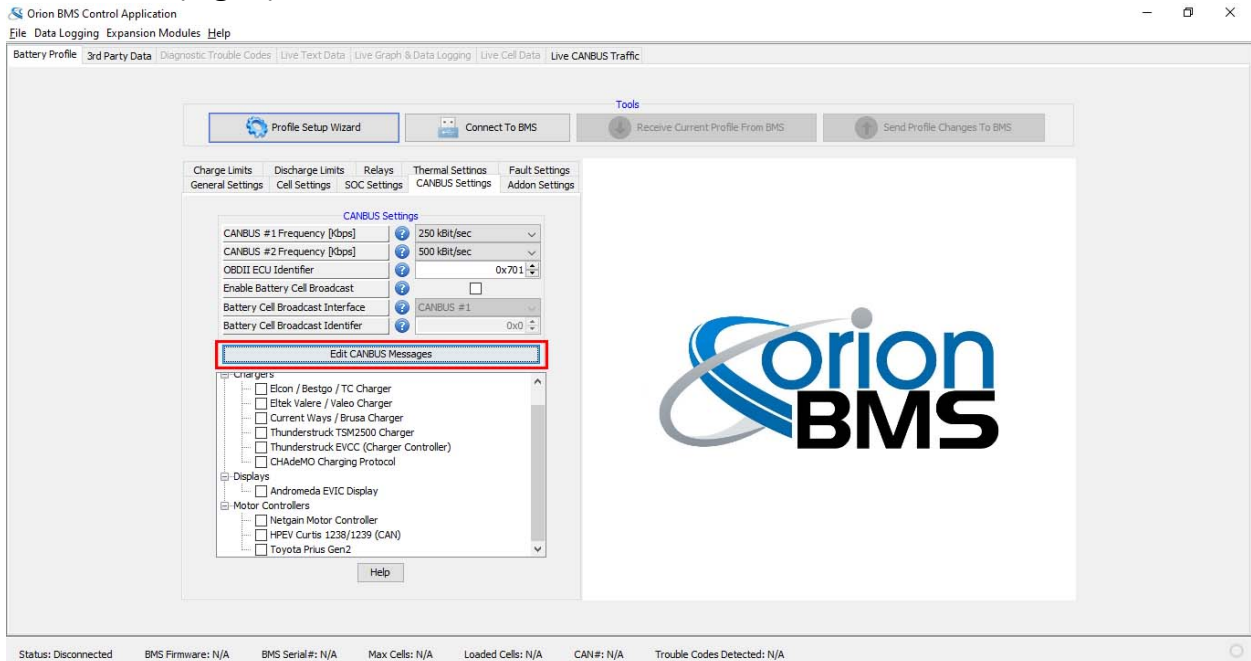

Fig. 4
- Select “Edit CANBUS Settings” box to open the CANBUS messages dialog box. (Fig. 4)